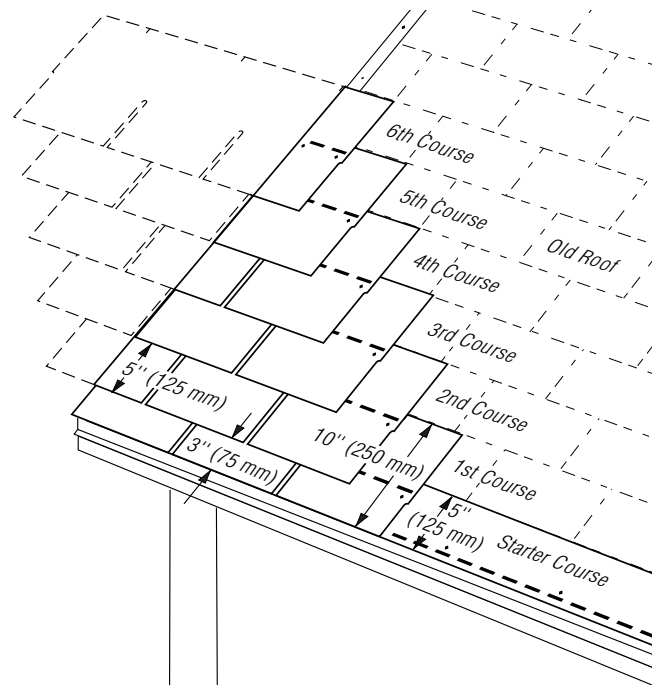

Figure 12-20: Six Off, Six Up, Nested.
2. Cut 6" off either side of the first starter shingle and install it over the first course of the old shingles, at the lower left corner (Figure 12-20).
1. The first course is made of 10" by 36" shingle strips made by cutting 2" off the bottom of the tabs of regular shingles (Figure 12-20).
- Cut 6" off the left end of a full shingle. Butt the top edge of this 12" by 30" piece of shingle up against the bottom edge of the shingle in the old fourth course. Make the left edge align with the first-course left edge (Figure 12-20).
- Apply this 24" piece of shingle over the second course, leaving the 5" tabs of the second course exposed. The top edge of the new shingle in this course should butt up against the bottom of the fifth course of old shingles (Figure 12-20).